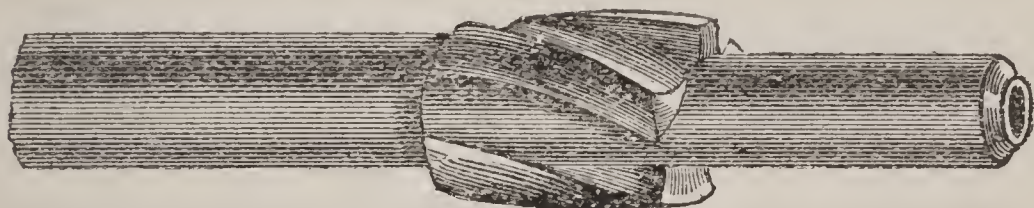

FIGURE 35.
*Breeching Reamers.* — The form of breeching reamers is shown in Fig. 35. The extension is supposed to fill the bore of the gun, and when it does so the tool will make a cut that is straight and true. When this extension does not fill, then slip a brass